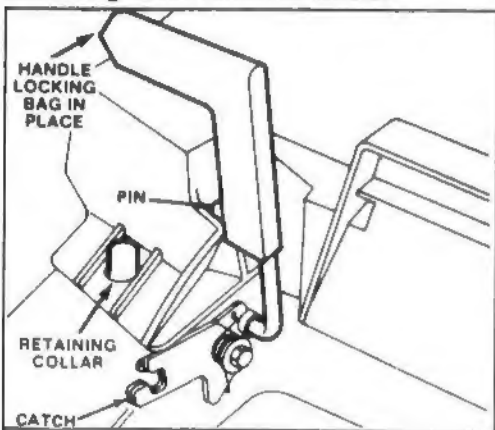

Figure 9
3. INSTALLING BAG—Slide hole in bag frame onto retaining post on housing (Fig. 9) and set rear of bag frame onto lower handle.
4. Pull chute door handle forward until pin clears catch and move handle rearward until pin locks in bag notch (Fig. 9). Chute door in mower housing is now open. It may be necessary to push down on top right of bag door to release handle locking pin from catch.